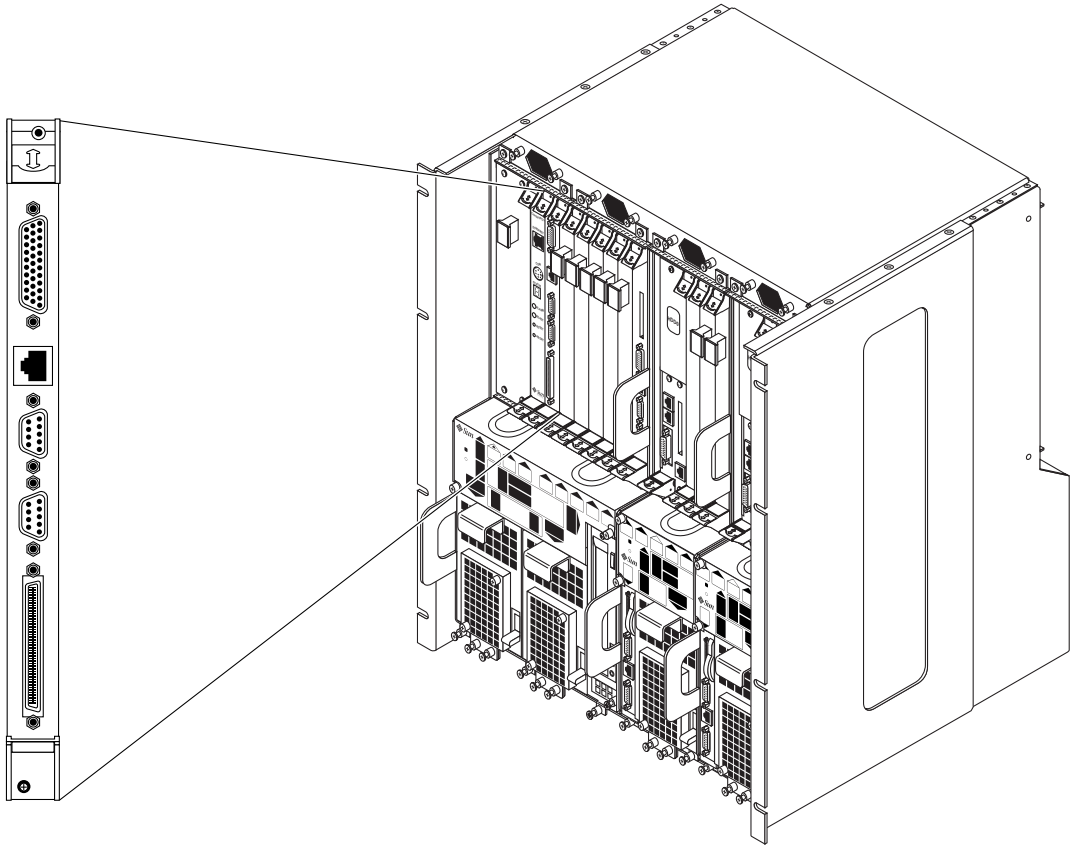
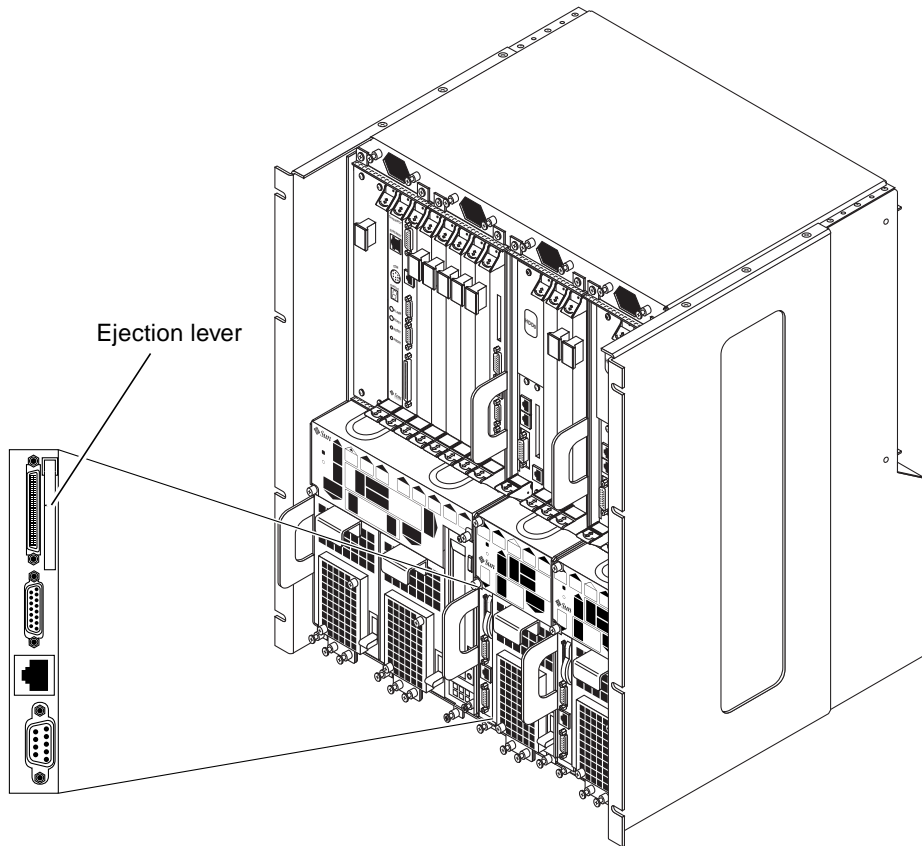

FIGURE 10-7 CPU Front Transition Card Locations in a Netra ct 800 Server
FIGURE 10-8 CPU Front Transition Card Location in a Netra ct 400 Server
FIGURE 10-7 shows the location of the CPU front transition card in a Netra ct 800 server and FIGURE 10-8 shows the location of the CPU front transition card in a Netra ct 400 server.
- b. Flip up on the ejector lever to unseat the card from the card cage (FIGURE 10-8).
- c. Press down on the ejector lever to seat the card into the card cage (FIGURE 10-8 on page 10-12).**